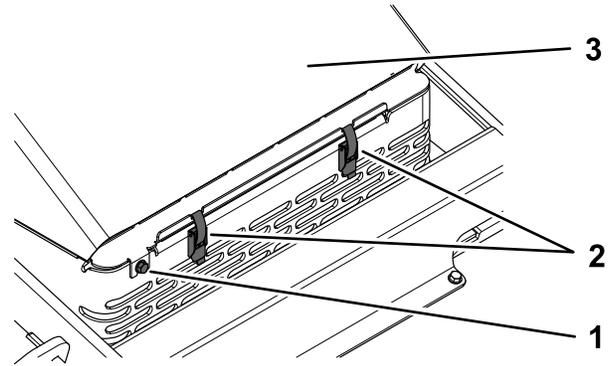

Figure 38
3. Loosen the hood-locking screw (Figure 38).
4. Hold the hood down and release the 2 latches (Figure 38).
5. Lift open the hood (Figure 38).
2. Tighten the hood-locking screw (Figure 38).